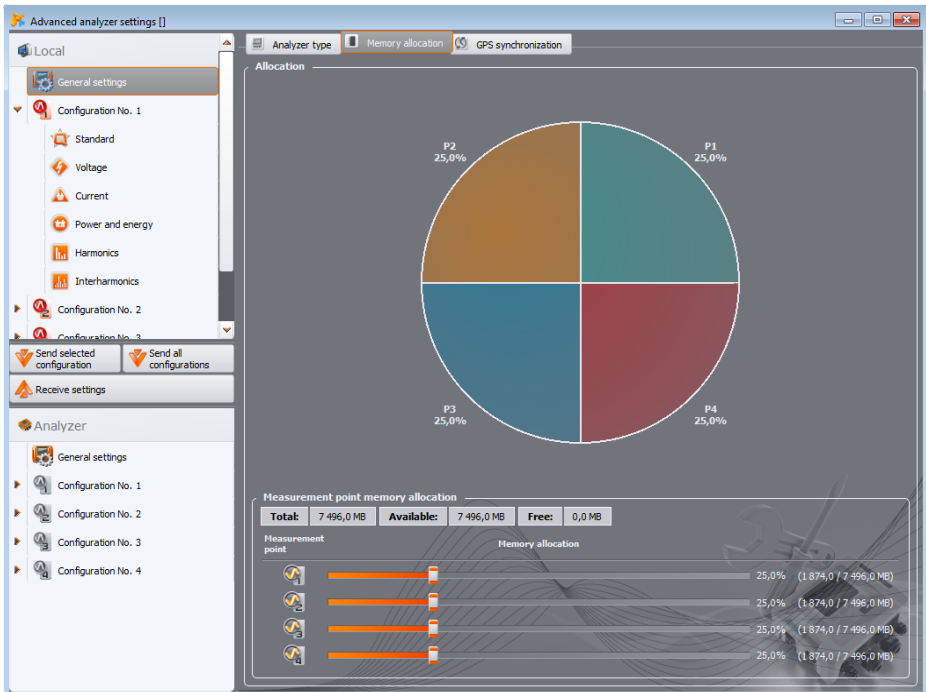

Fig. 19. Memory allocation.
- **PQM-702 PQM-703 PQM-710 PQM-711 MEMORY ALLOCATION:** this tab (Fig. 19) allows user to allocate space of the analyzer's memory card to the individual measurement configurations. Use four sliders to allocate desired amount of memory to a given configuration (in MB and %). In the middle part of the screen you will see a visualization of memory allocation. All available card memory (100%) may be freely divided among the four configurations. It is possible to allocate 100% of the memory to a single configuration; in such case recording in other configurations is impossible - for them only "live" preview of mains parameters is available. All measurement configurations have linear recording in the memory, when the memory allocated to a given configuration is used up, the recording stops. Please remember that modification of memory allocation will require deleting all data from the memory card. Thus, it is advisable to download such data and save it on a local disk. New memory allocation is sent to the analyzer after clicking **SEND** button (along with configurations of all measurement points).